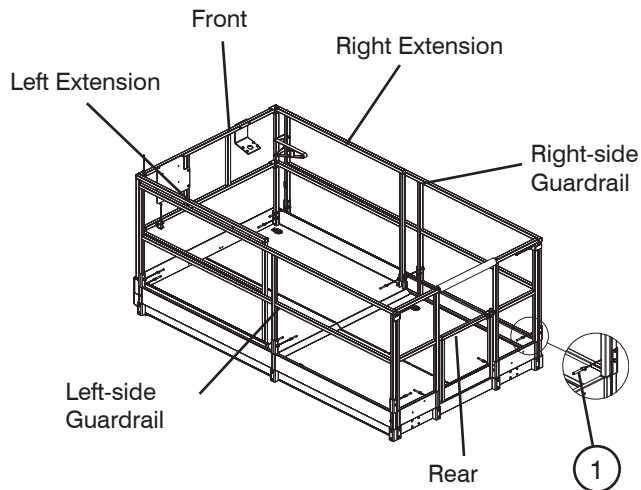

Figure 2-24. Folding Guardrail System
7. Fold down guardrails in the following order: rear, front, left extension, right extension, left-side and right-side (refer to Figure 2-24.)